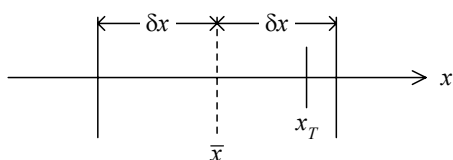
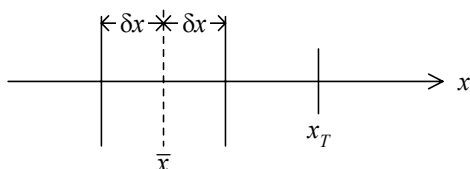

Fig. 4
Fig. 6
1. If $\Delta < \delta x$ (Fig. 4), you can say you have just repeated the experiment (or the experiment is satisfactory, or your experimental result agrees with the accepted value). Present Δ / x_T (in %) in your conclusion. In the first-year lab, we aim at $< 5\%$ discrepancy.
Compare **Fig. 4** and **Fig. 6**:
Result in **Fig. 6** is more precise than that in **Fig. 4**, probably due to better equipment but it is not properly calibrated. Result in **Fig. 4** is more accurate than that in **Fig. 6**.